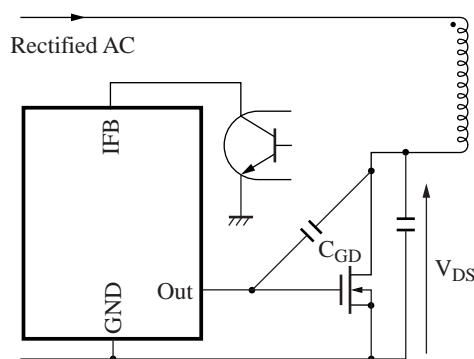

Figure 15
However, the amplitude of the chattering is larger for higher input voltages and for larger leakage inductance in the transformer used. Also, the influence of this phenomenon becomes more noticeable for the larger C_{GD} of the power MOSFET used, and the V_{EX} peak value also increases. If the parasitic device conduction voltage is exceeded, then, in this IC, the parts of the circuit around the feedback circuit (FB) (in particular, the FB discharge circuit) are influenced. This can cause momentary drops in the IFB pin voltage (the control voltage), and as a result increase the FB current (I_{IFB}) and thus does not allow the drive pulse on-period t_{ON} to be increased. It may also prevent stabilization of the circuit. These are symptoms of the case described here. (See figures 15 and 16.)